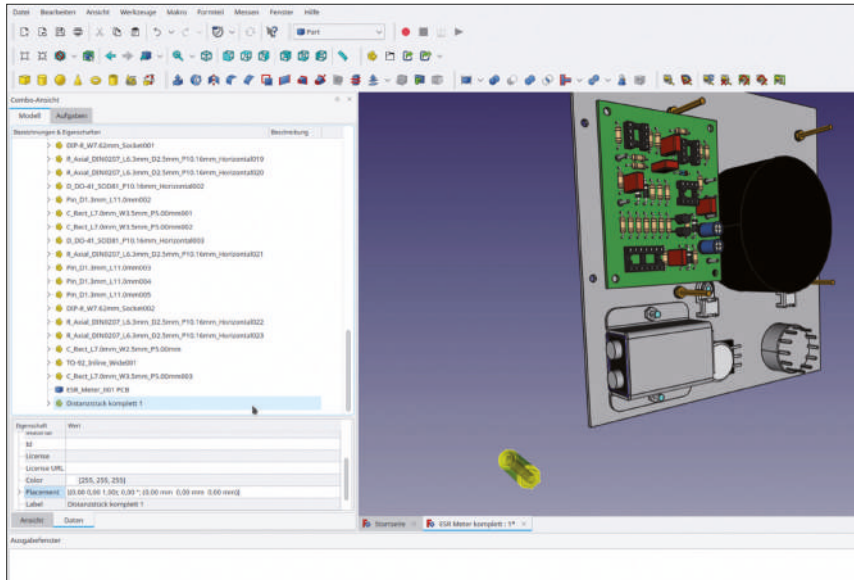

Figure 7-65
11. Rename the Std-Part-Container 'Spacer Complete' to 'Spacer Complete 1'. Drag-and-drop it into the Std-Part-Container 'ESR Meter PCB board Complete' (Figure 7-65).